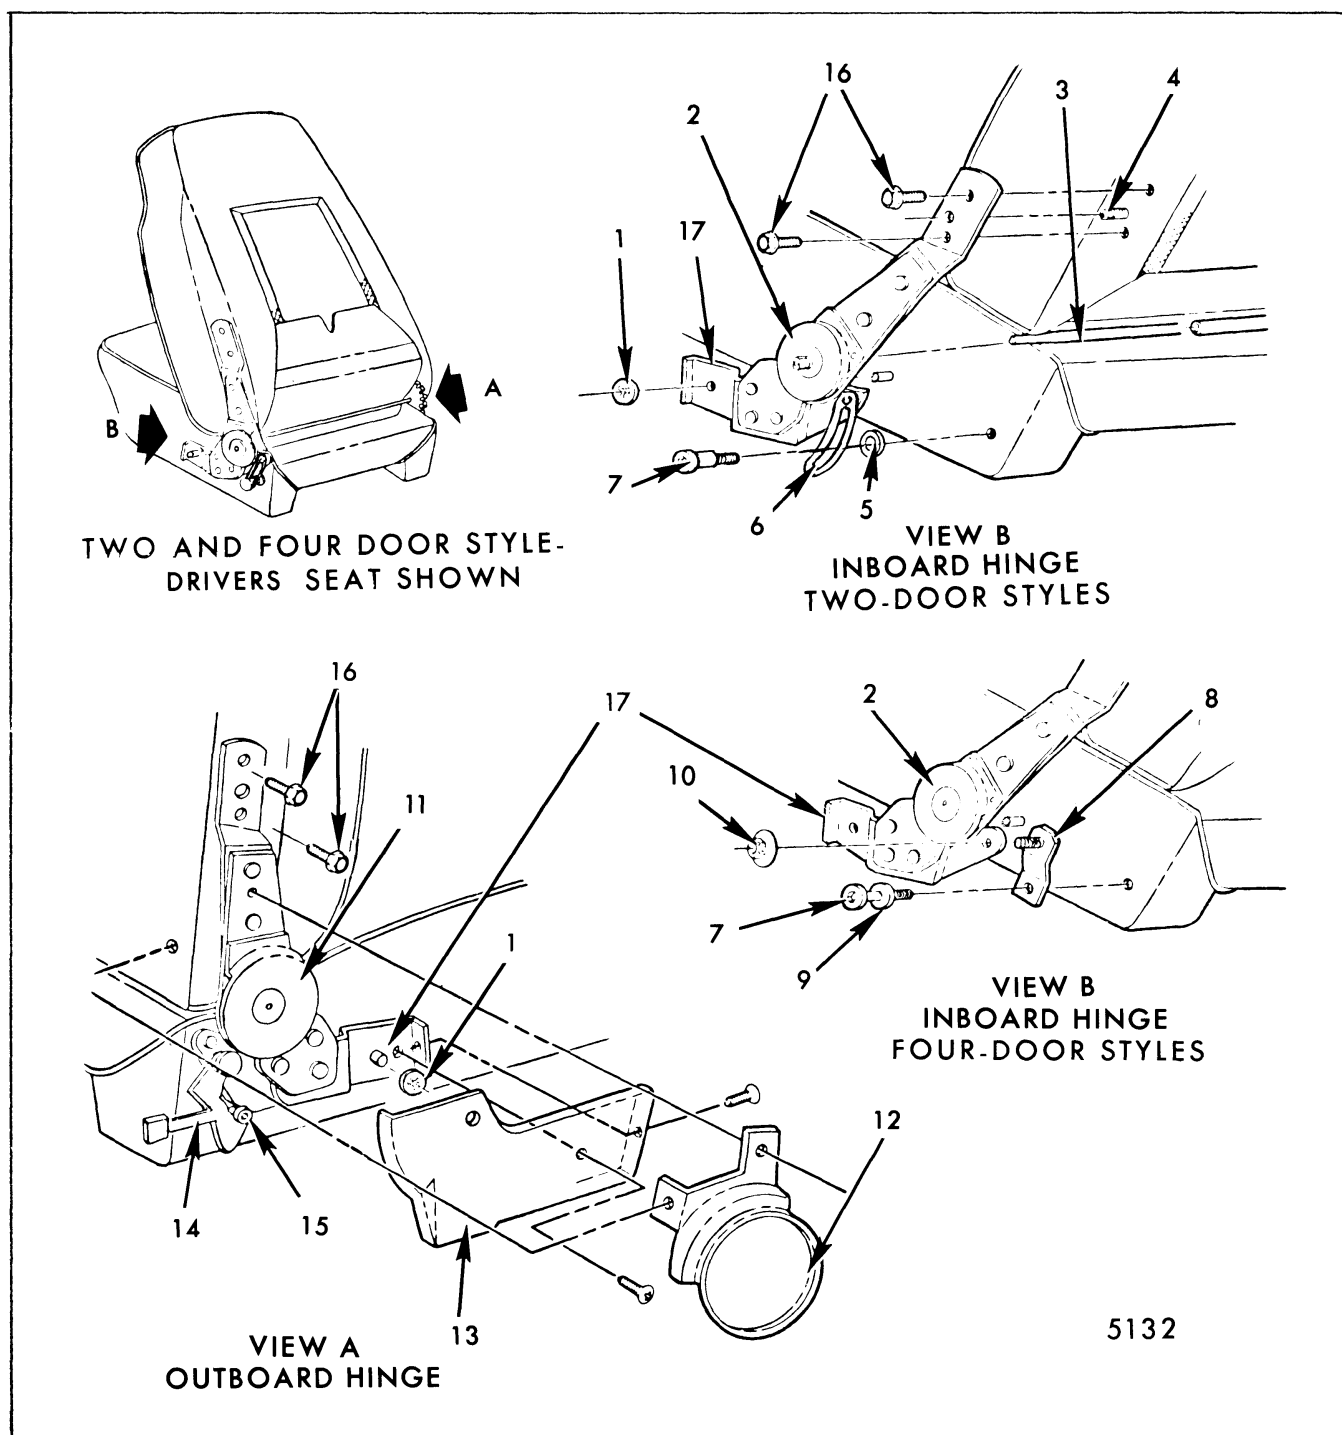

Fig. 9-41-Custom Comfort Bucket Seat Back Reclining Hinge Assemblies (Drivers Side Shown)
2. From both sides of seat back remove two screws securing seat back to hinge upper arm (Fig. 9-41).
- b. If removing the hinge without control knobs, remove upper and hinge finishing covers (Fig. 9-41).
3. Remove hinge upper arm-to-seat back attaching screws (Fig. 9-41, Item 16).
- a. On two-door styles, remove hinge lower arm retainer (Fig. 9-41, Item 1).
- b. On four-door styles, remove hinge-to-lock up link nut (Fig. 9-41, Item 10).